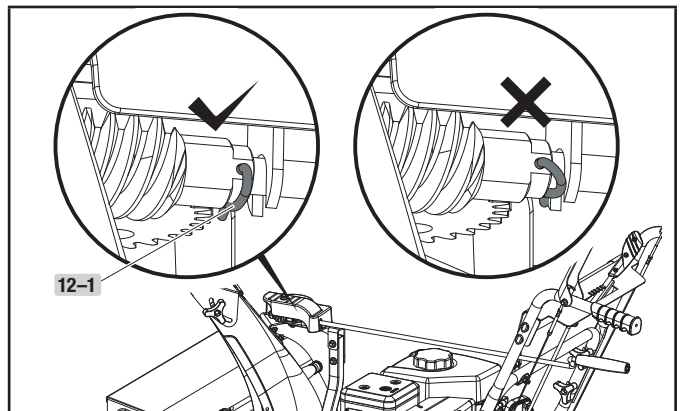

Figure 12B
3. Align the lever and the gear, and then connect the R-clip (12-1). (Fig. 12B).
Ensure the R pin is positioned as shown in Fig. 12B.